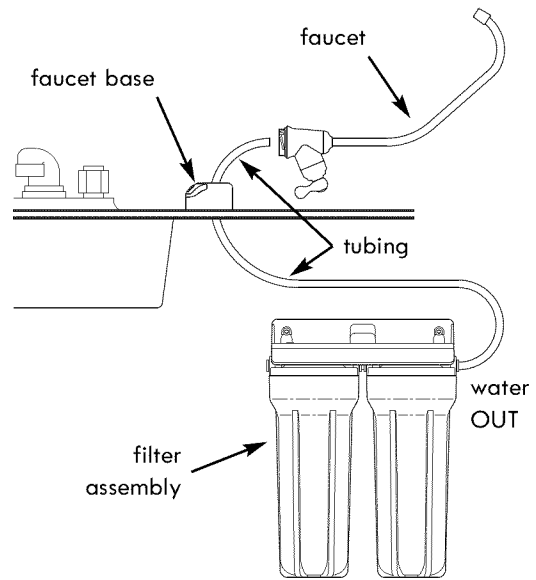

Figure 6
2. Locate the 3/8" O.D. tubing. Refer to the "Connect Tubes" section on Page 8 and insert one end of the tube all the way into the 3/8" quick connect fitting on the water OUT side of the filter assembly. See Figure 6.
3. Feed the other end of the tubing up through the mounting hole and faucet base. See Figure 6.